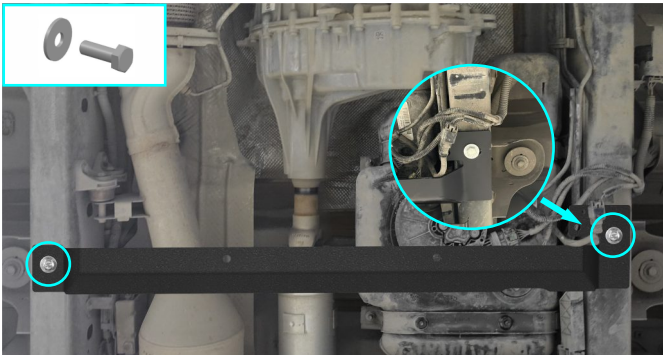

Fig. 3
3. Install crossmember (item 2) as shown in fig.3 and secure it using bolts M10x30 with flat washers M10 (items C, E).